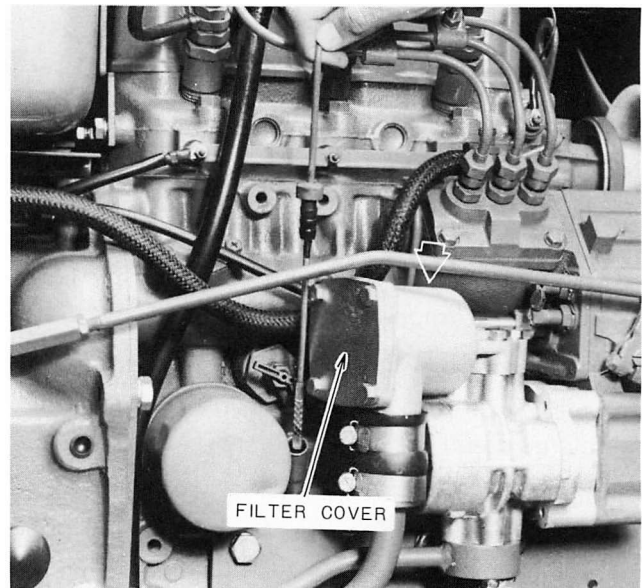

Figure 40 — Hydraulic Oil Filter
1. Remove the attaching bolt from the cover and filter, Figure 40.